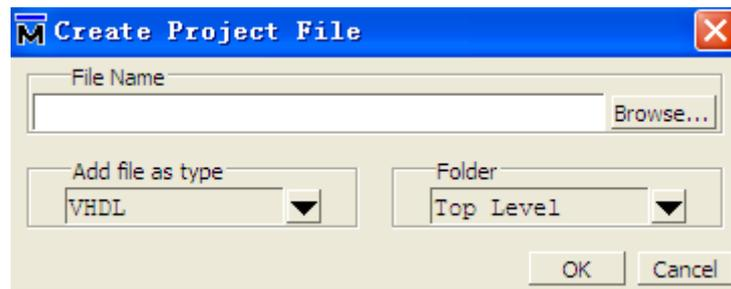

Figure 2.6 Create Project File
1. Click "**Create New File**". The window in Figure 2.6 will appear.